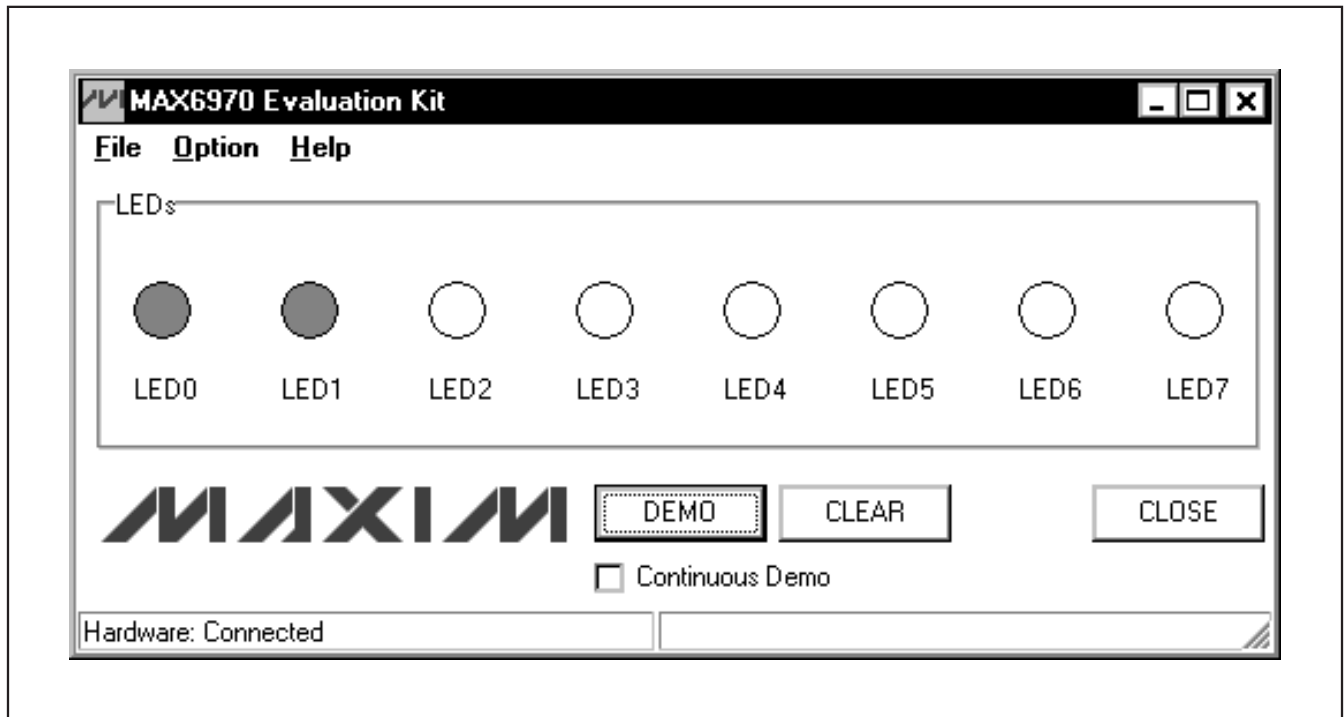
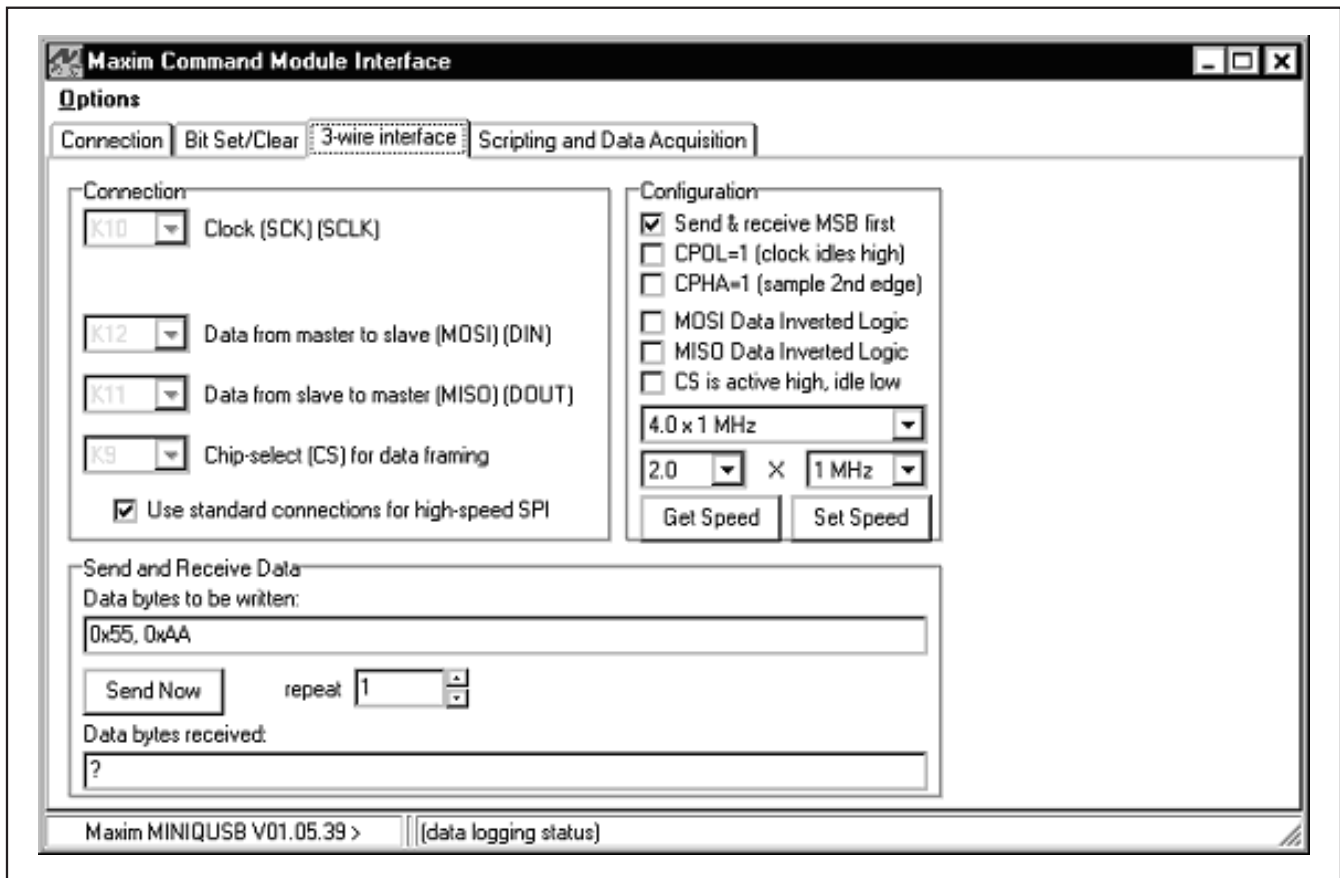

Figure 1. MAX6970 EV Kit Software Main Window
Figure 2. MAX6970 EV Kit Software Advanced Users Interface
- 6) Start the EV kit software by opening its icon in the **Start | Programs** menu. The EV kit software main window should appear as shown in Figure 1.
The main window of the evaluation software (shown in Figure 1) displays the state of each LED on the EV kit. Click the **LED0–LED7** icons located in the main window
In Figure 2, a serial interface can be used by advanced users by clicking **Option I Interface (Advanced Users)** from the MAX6970 EV kit main software window shown in Figure 1. Enter data into the **Data bytes to be written** edit box and press the **Send Now** button.